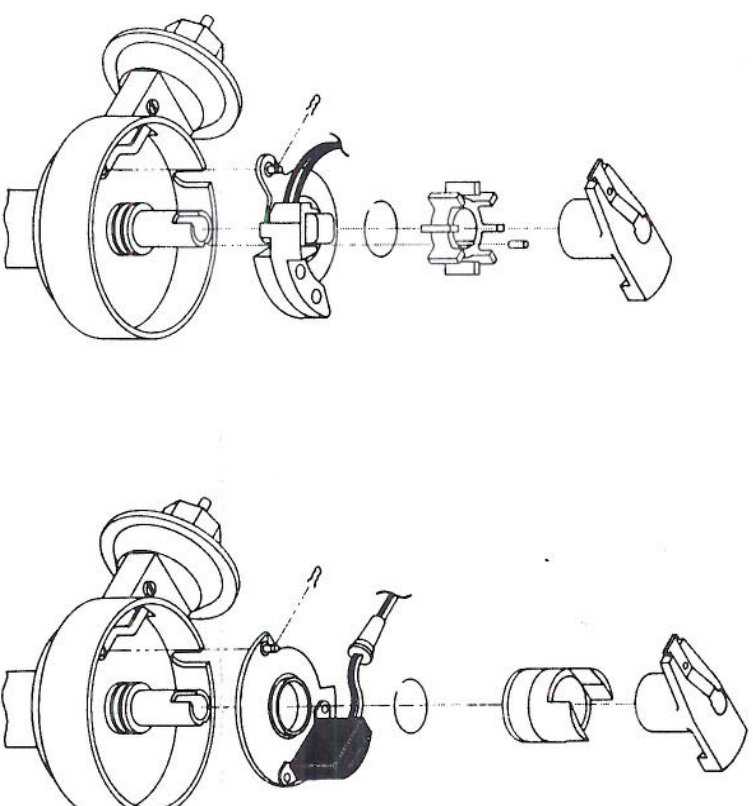

FIGURE 1
4. Disconnect all connections to the existing electronic ignition. 1974 vehicles have 2 connectors, 1975-1983 vehicles have 3 connectors. (See Figure 1)